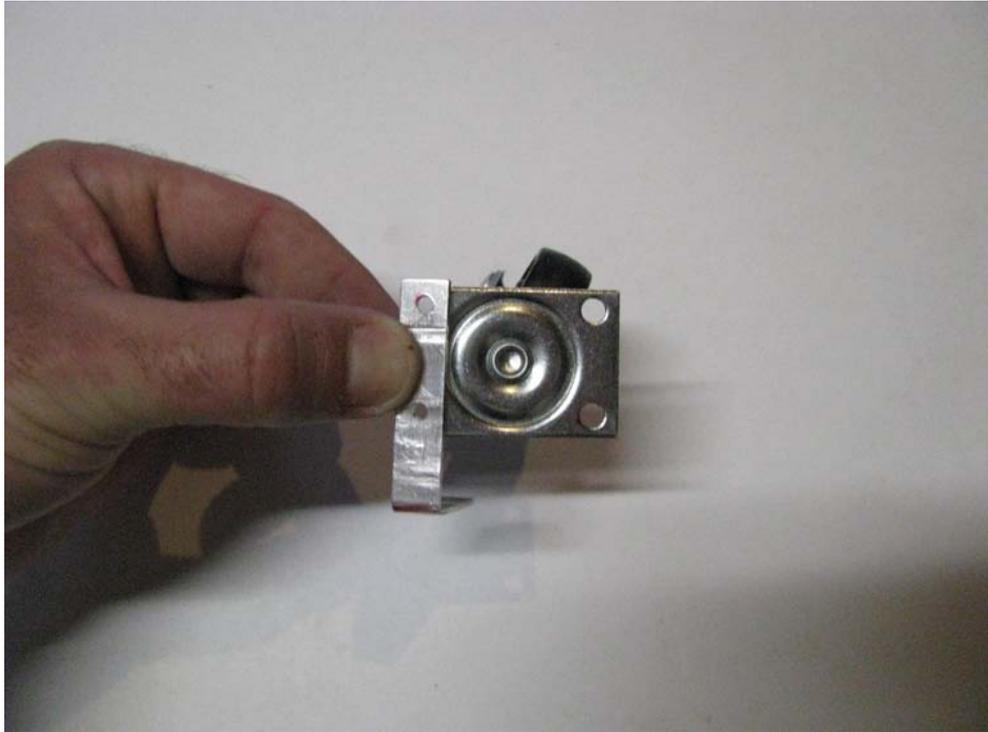

Figure 4-24. Drill holes through “L” bracket where marked.
2. Drill holes for the castor mounting plate to mount to the aluminum brackets, as shown in Figure 4-24. My castor wheel required (2) 1.75 inches by 1.25 inches “L” brackets.